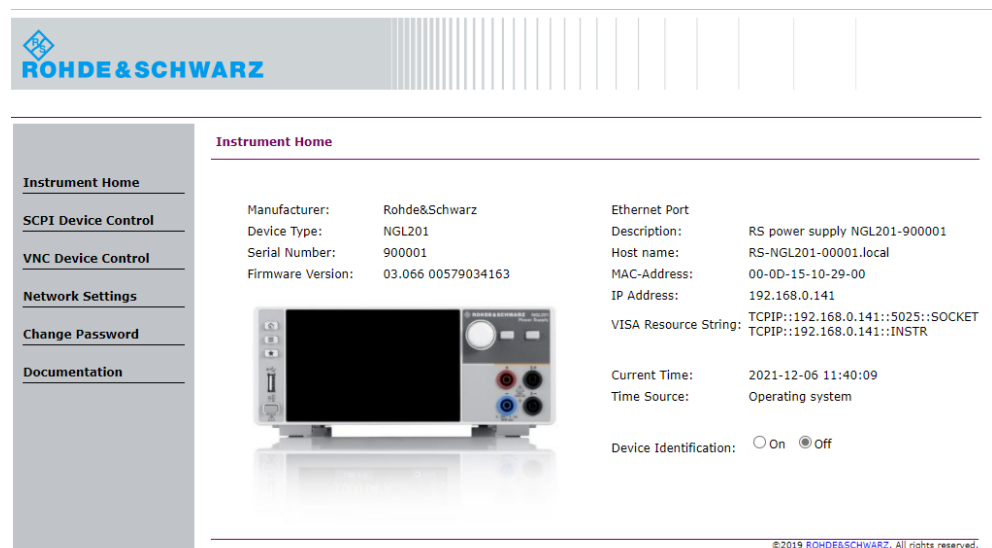

Figure 6-60: Instrument home webpage of a power supply model
5. Alternatively, connect to the instrument webpage using the IP address or hostname on the web browser URL bar. If connected successfully, the "Instrument Home" webpage is displayed. See Figure 6-60.
- "Instrument Home": Displays instrument information (e.g. model, serial number, firmware version). See Figure 6-60.